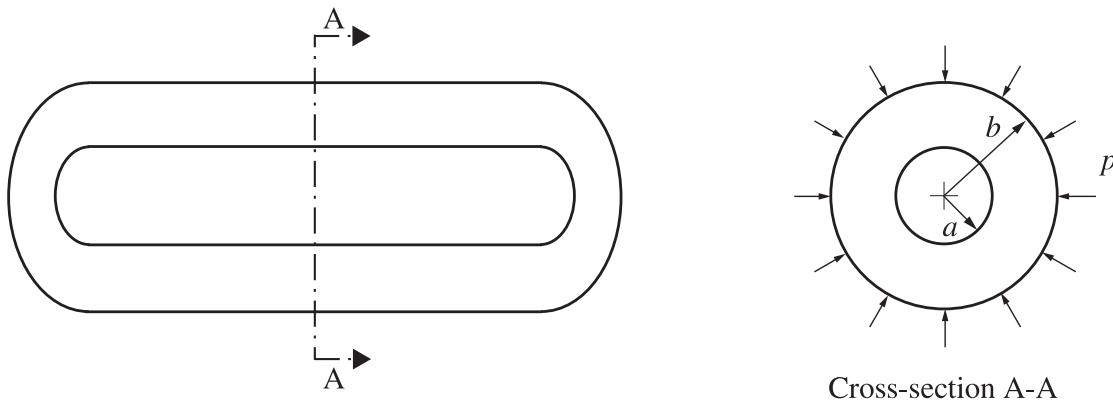

Fig. 3
- (b) Figure 3 shows a long thick-walled cylinder with both ends closed that has an inner radius a and outer radius b . It is made from a solid of Young's modulus E and shear yield strength k , and the Tresca yield criterion is assumed. The outer surface is subjected to a pressure p . Considering a cross-section A-A answer the following questions.